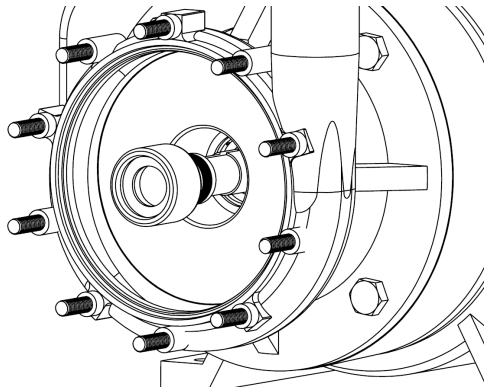
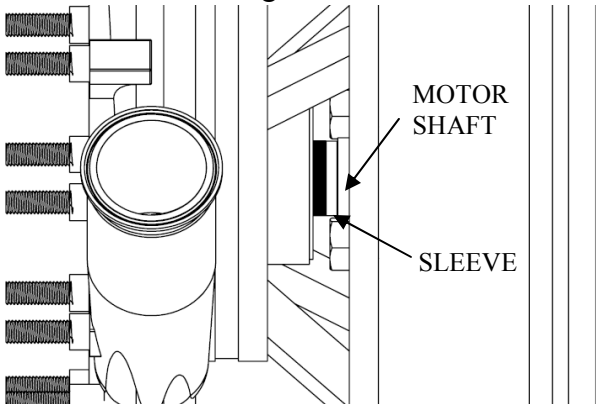

Figure 14
Figure 15
6. Slide seal driver assembly over shaft. Figure 14. The sleeve will pass through the stationary half of the seal that is already in the casing, through the lip seal and gland (for pumps with a seal flush) and butt up against the shoulder of the motor shaft. Figure 15.